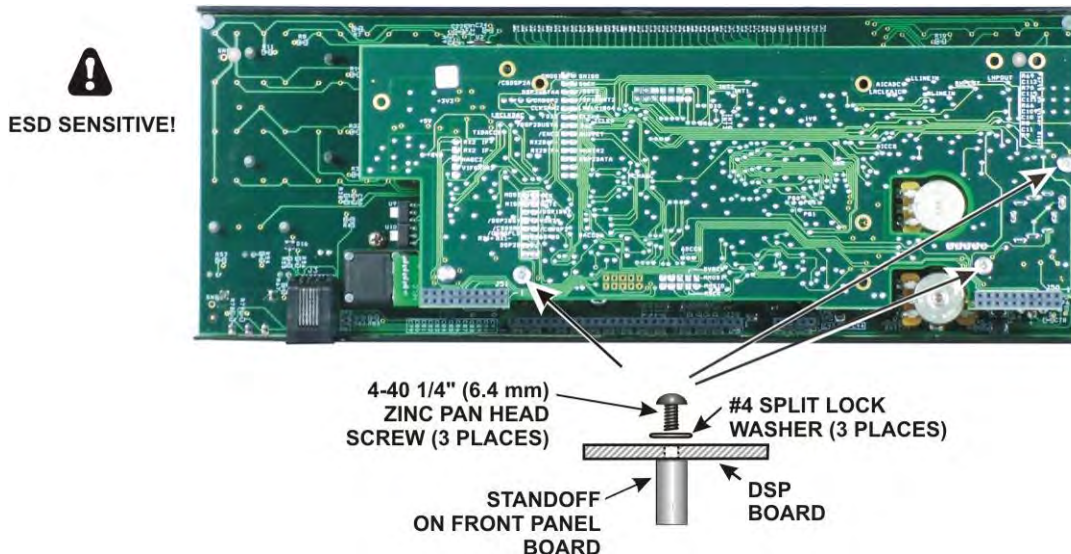

Figure 59. Mounting the DSP Board.
□ Secure the DSP board to the front panel board with three 4-40 1/4" (6.2 mm) zinc pan head screws and split lock washers as shown in Figure 59.